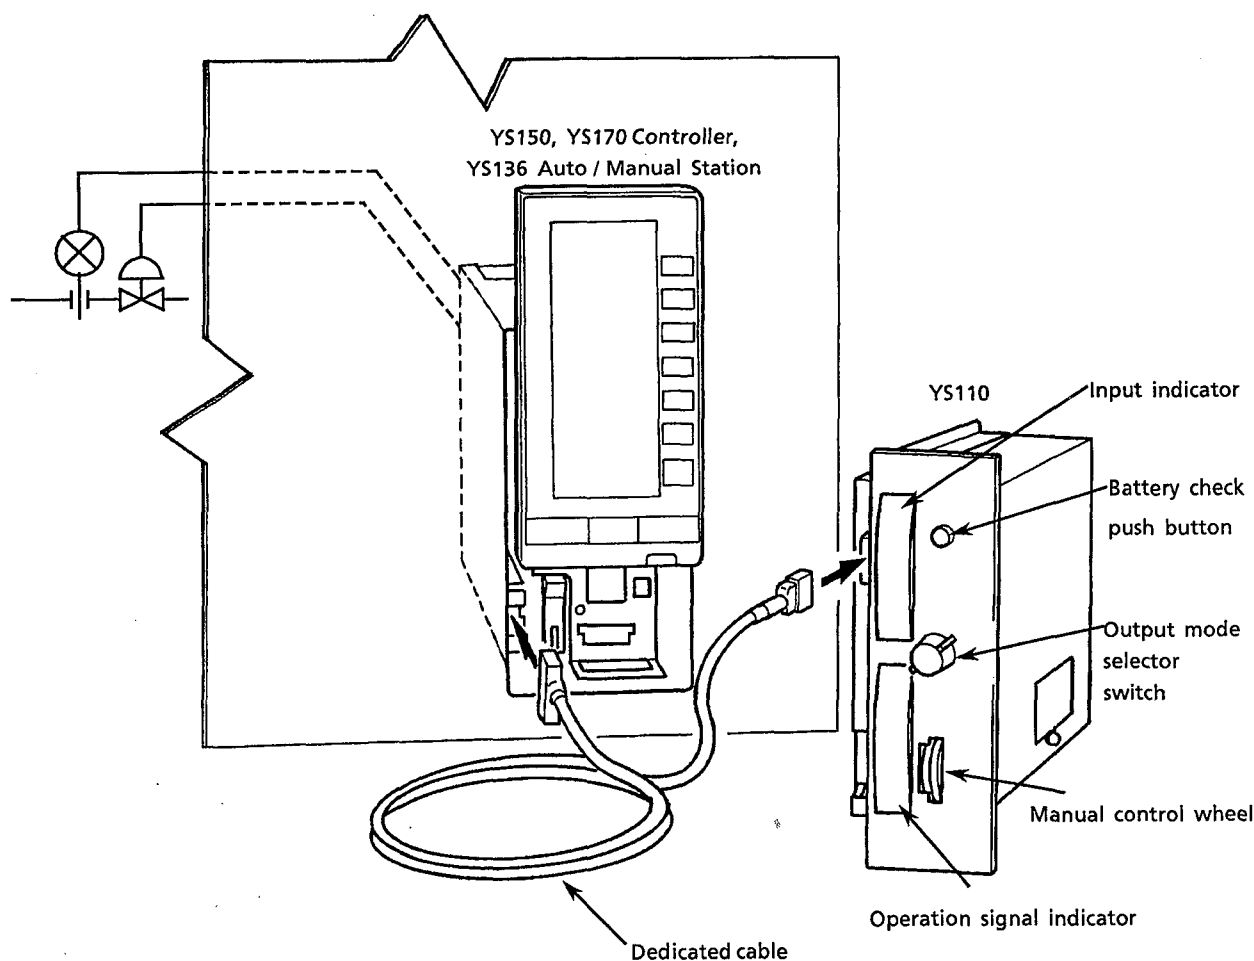

Figure 6.3 On-line Replacement of the controller
- ① Swing up the front panel.
- ② Connect the YS110 Standby Manual Station to the connector for the Standby Manual Station (see Figure 6.3).
- ③ Enable MV operation using the YS110 Standby Manual Station.
- ④ Remove the internal unit.
- ⑤ Connect YS110 Standby Manual Station. The YS110 Standby Manual Station is operated with the external power supply when it is connected to the connector at the rear.